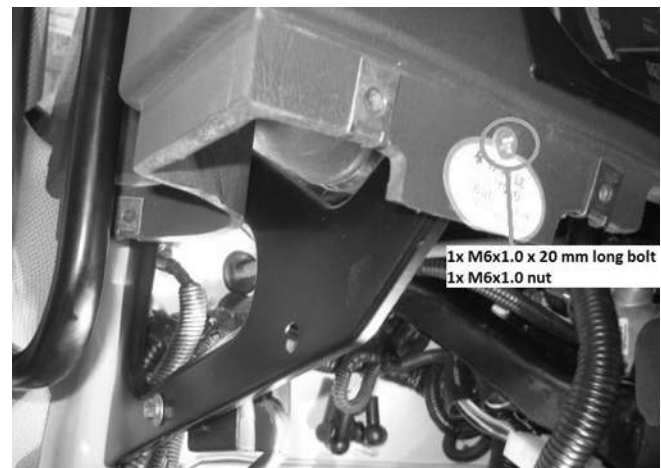

Figure 16-1
1. Reinstall the bolt/nut assembly on both LH and RH sides of the instrument panel (see Figure 16-1).